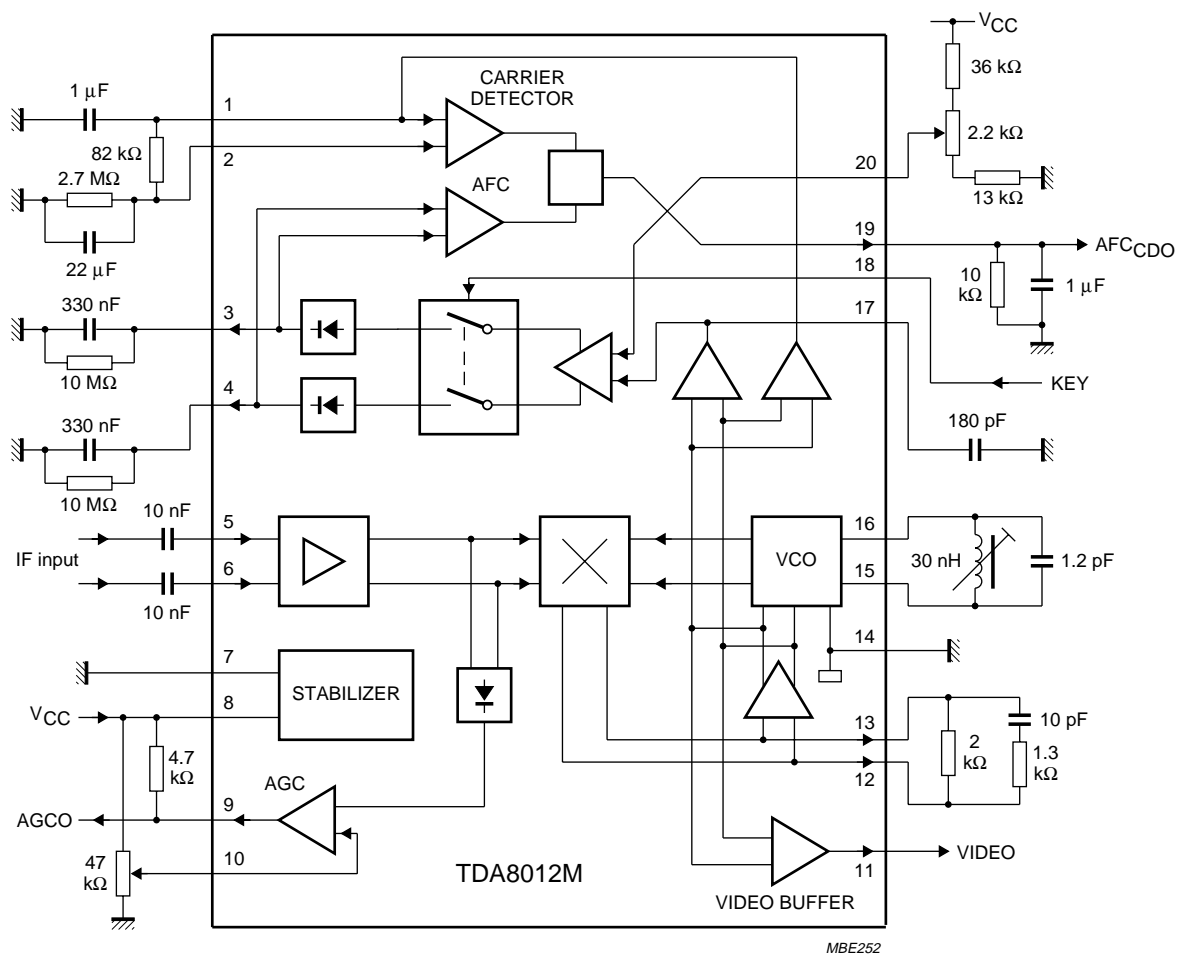

Fig.4 Application circuit.
$V_{CC} = 5\text{ V}$; $f_i = 480\text{ MHz}$; $V_i = 57\text{ dB}\mu\text{V}$; $T_{amb} = 25\text{ °C}$; measured in application circuit of Fig.4; unless otherwise specified.
9. The characteristics of the AGC function are measured in the application circuit of Fig.4. The circuit illustrated in Fig.4 has been designed to set the maximum AGC current of 1 mA . The output of the AGC function is capable of handling up to 5 mA . The maximum AGC current can be increased to 5 mA by decreasing the value of the resistor connected between pins 8 and 9.
10. In the application circuit (see Fig.4) the voltage at the AGC output decreases when the IF input level increases above the adjusted AGC threshold.